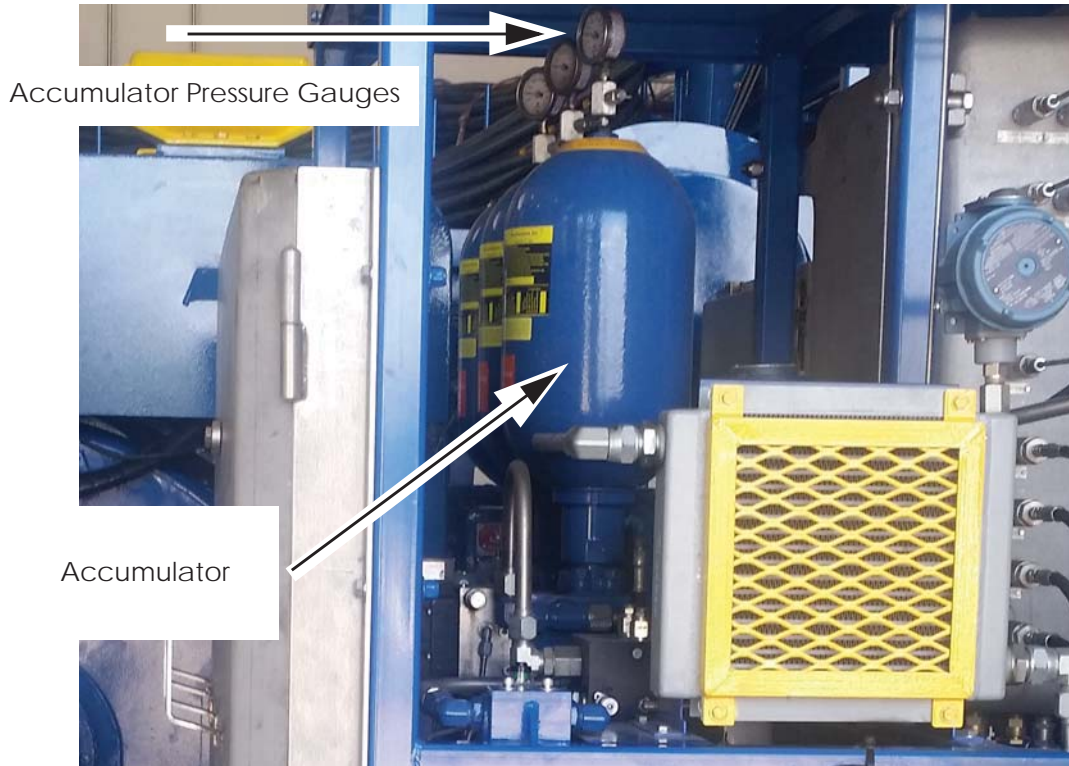

Figure 5: Check Accumulator Pressure
3. Check pressure gauges on the Brake HPU accumulators. Accumulators should be set to 650 psi. See Figure 5, "Check Accumulator Brake Pressure," on page 3 for accumulator gauge locations.